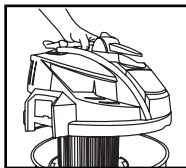

FIGURE 2
2. Lift cover off of tank by using the handle on top of the cover. **FIGURE 2.**